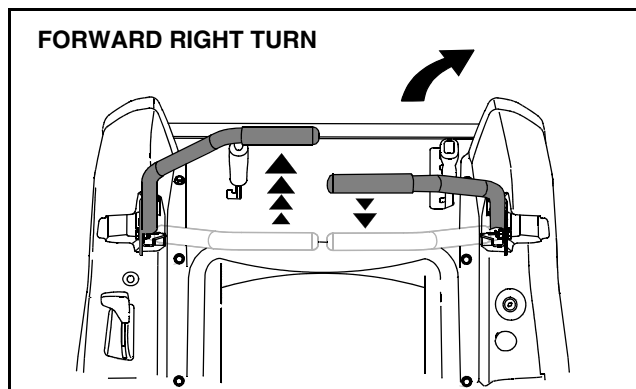

Figure 13
- To turn to the right, move the right drive control lever rearward of the left lever. See Figure 13.